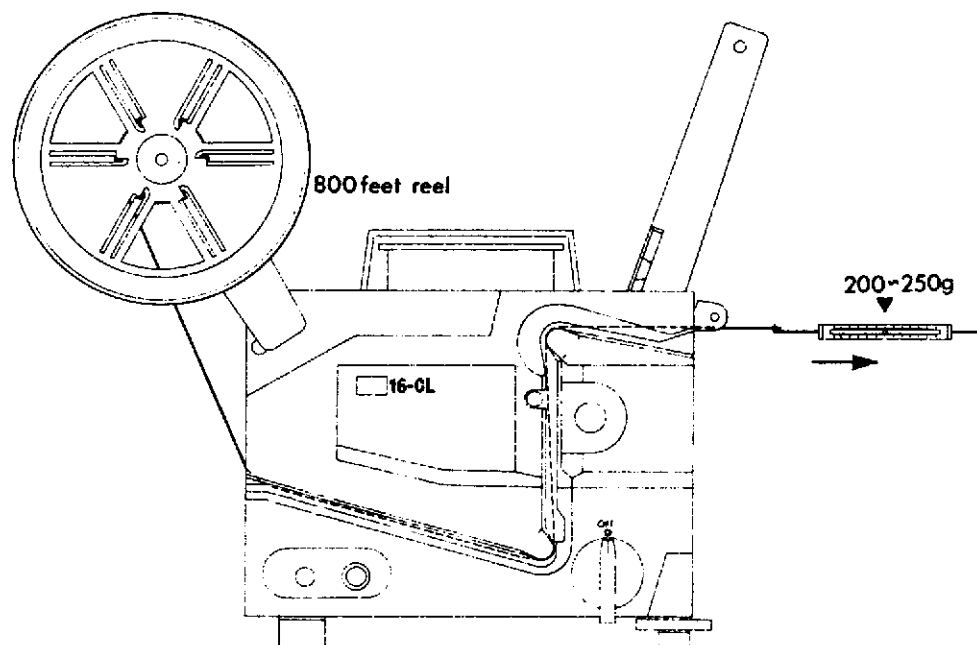

Fig. 19
- (1) As illustrated in Fig. 19, set Main Knob (Fig.1-22 ) at "OFF" position. And wind film on attached 800 ft Reel through Channel, and turn the reel for about 10 times by hand.
- (2) While pulling out the film in the direction of the arrow illustrated in Fig. 19, measure the tension by a tension guage. The tension is to be 200-250gr.